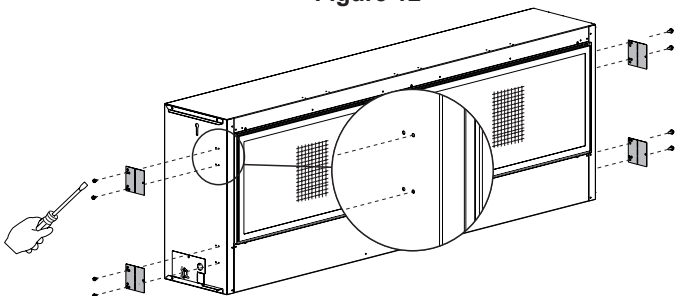

**Figure 15**
7. Locate the steel standoff brackets under the burner cover. See **Figure 15**.